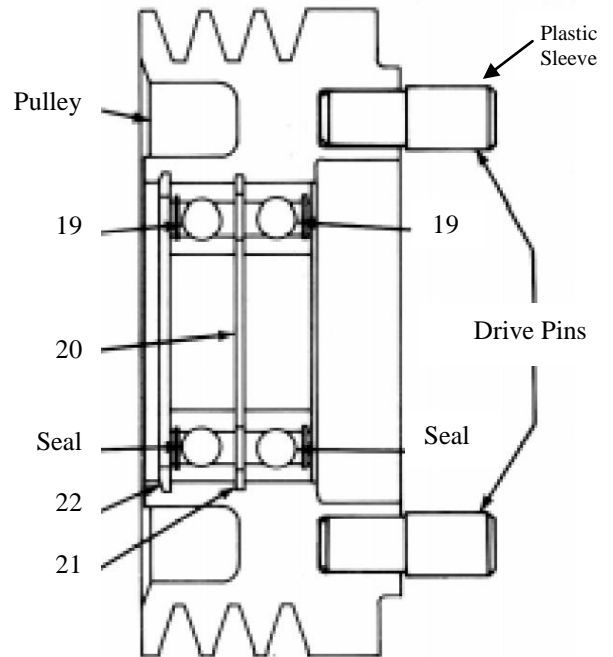

Figure 2
9. Remove and discard pressure plate(7) from the shaft.
10. Remove and discard the two 1/4"-20 Phillips head screws that secure the spring pack(9) to the pulley. Remove and discard the spring pack(9).
11. If your drive pins (fig. 2) have a plastic sleeve on them, use a pliers to remove the sleeve from the pin.